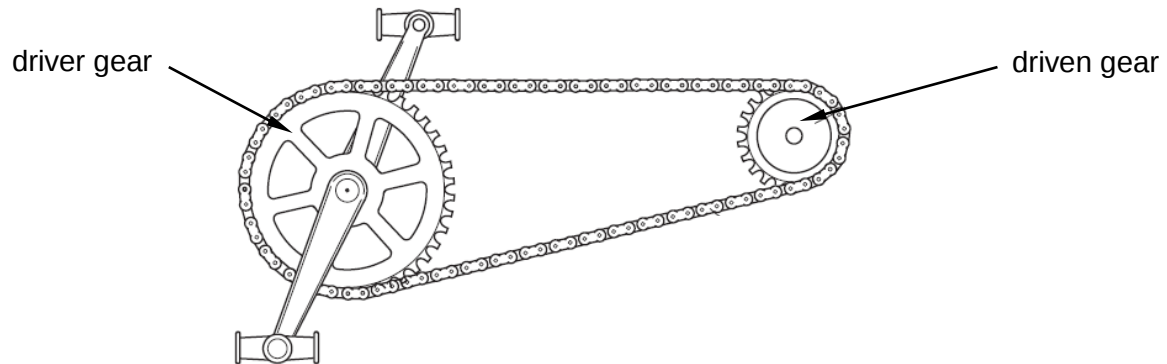

Fig. 3
- 6 Figure 3 below shows a mechanism of a bicycle.